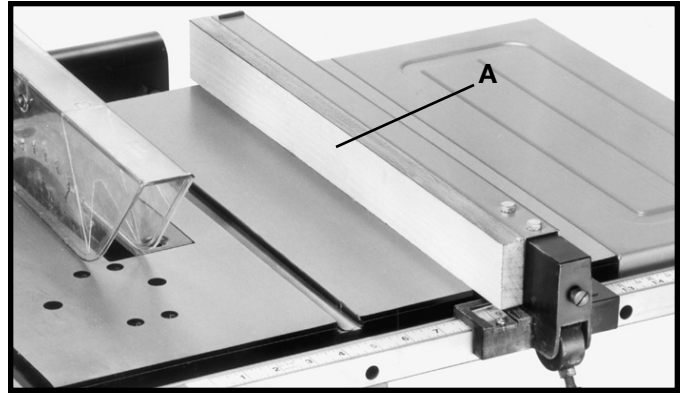

Fig. 53A
Wood facings (A) Fig. 53A are necessary on some special operations to one or both sides of the rip fence. The wood facing is attached to the fence with screws through the holes in the fence. Most work will require a 3/4" stock, although an occasional job may require 1" facing.